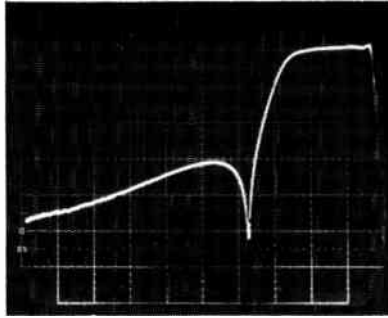

Fig. E-2: Distortion Cancellation Response
1) Connect the output of the 5L4N tracking generator to TP1 of Card #8 (pin L on the card connector). Connect the input of the 5L4N to the left rear-panel TEST JACK. Observe the swept response with the 5L4N vertical span at 10dB/div, with 20-20kHz log frequency sweep. The swept response shows the response of the Smart Clipper to clipping-induced distortion components only. Note the high amount of rejection below 2.2kHz, and the very steep slope at 2.2kHz (see Fig. E-2).
If this swept response does not resemble Fig. E-2, then there is a fault in either the filters or phase correctors between the card input and the output of IC803B. This test is both fast and sensitive because accurate cancellation demands accurate matching of the phase and amplitude responses of both the phase-corrected 15kHz lowpass filter and the distortion-cancelling filter. If any circuitry is faulty, then the cancellation will not occur accurately.